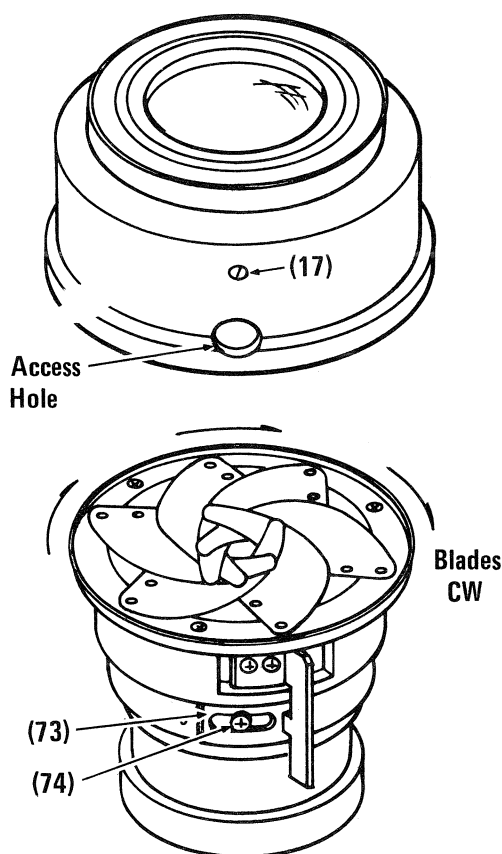
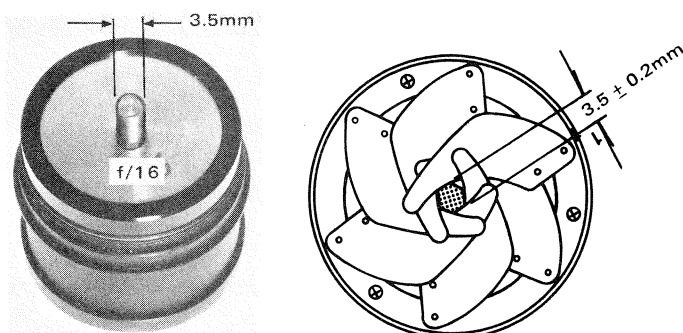

FIG. 3-6
FIG. 3-7
- 3.3** c) Remove three setscrews (28), which clamp rear diaphragm housing into front diaphragm housing.
- d) Screw fifth lens group, or Tool No. 3650557 into rear diaphragm housing. Gently work front diaphragm housing away from rear diaphragm housing. Fig. 3-6.
- a) Install diaphragm blades in a clockwise sequence. Fig. 3-6.
- c) Align blade ring limit stop access hole in front diaphragm housing with head of aperture limit plate stop screw (50); install front diaphragm housing over rear diaphragm housing, seating it firmly. Fig. 3-6.
- d) Holding parts firmly together, install the three setscrews (17) in front diaphragm housing. Thread the setscrews into the housing until they just make contact with the rear diaphragm housing.
- g) Thread Tool No. 3650557 into rear diaphragm housing; hold diaphragm lever against limit stop and measure the aperture size. At f/16, the diaphragm blades should just touch the pin of the tool. (Diameter of the opening is $3.5 \pm 0.2\text{mm}$.) Fig. 3.7. Adjust the aperture size by shifting the position of limit stop plate (49). Fig. 3-6.
a) Install diaphragm housing assembly in the assembled lens; ensure that the housing is free to rotate by loosening screws (49). Fig. 3-7.